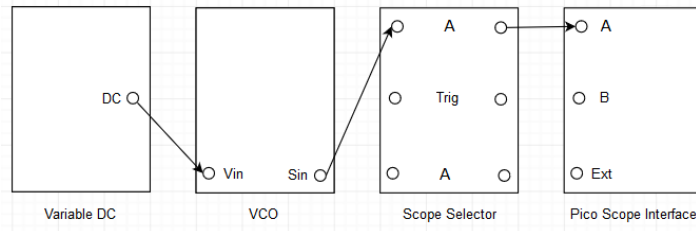

Figure A.3.1: Setup for frequency sensitivity of VCO.
- v. Make the setup as shown in the Figure A.3.1.